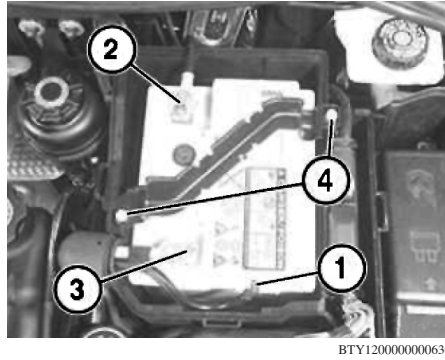

Fig. 2 Battery removal
4. Detach battery vent hose (1), **Fig. 2**.
5. Disconnect battery ground cable (2), **Fig. 2**.
6. Disconnect battery positive cable (3), **Fig. 2**.
7. Remove mounting bolts (4) and battery retaining bracket, **Fig. 2**.